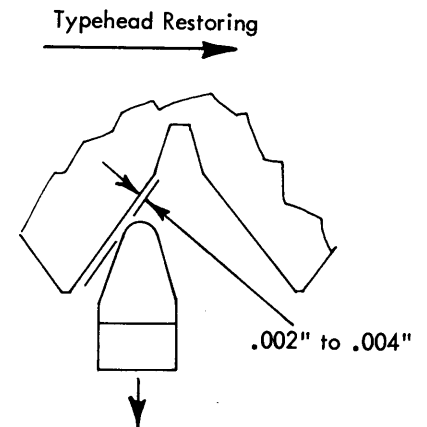

FIGURE 68b. Withdrawal Clearance For The "M" (-5)
b. **Machines Not Equipped With An Impression Control Lever** - Hand-cycle an upper case "M" (-5) and observe the rotate detent as it operates in the type-head notch. The detent must enter the correct detent notch and withdraw without restricting the restoring of the typehead. There should be .002" to .004" backlash felt in the typehead when the detent has withdrawn approximately half-way down the slope of the detent notch (Fig. 68b).